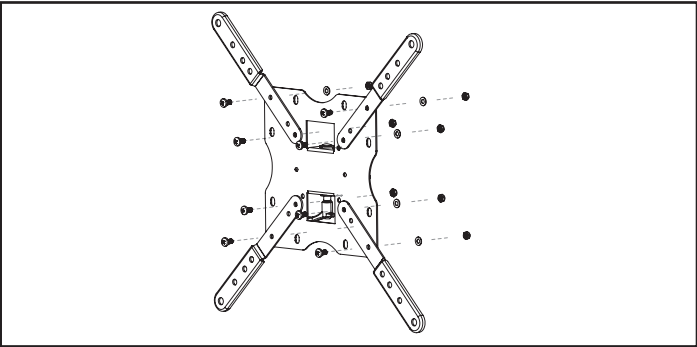
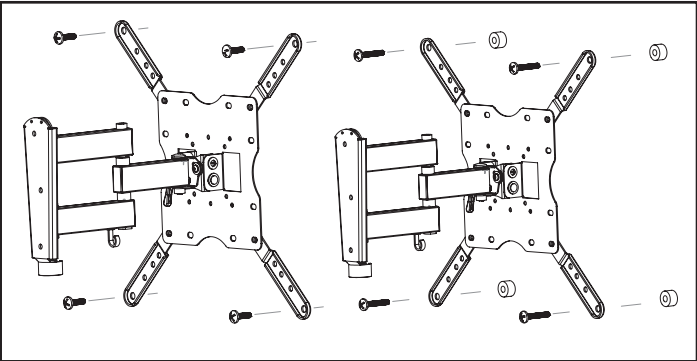

Figure 4
Figure 5
- c) Attach the adaptor plates as shown in the appropriate illustration to the mount using the M6 x 16 screws (C), M6 locknuts (D) and M6 x 16 washers (E) from the hardware kit. See figure 4.
- b) If the back of your display is curved, has a protrusion, or if the mounting holes are recessed, you will need to use the longer screws (G, I or K) and may also need to use the spacers (N).
4. Attach the mount arms to the back of your display using the screws identified in steps 2 and 3. See Figure 5.
- a) If you are using the M4 or M6 screws, you may need to use the M6 x 18 washers (L). If you are using the M8 screws you may need to use the M8 washers (M). **Only use the washers if necessary.**
- b) If the back of your display is curved, has a protrusion or if the mounting holes are recessed, you will need to use the longer screws (G, I or K) and may also need to use the spacers (N).